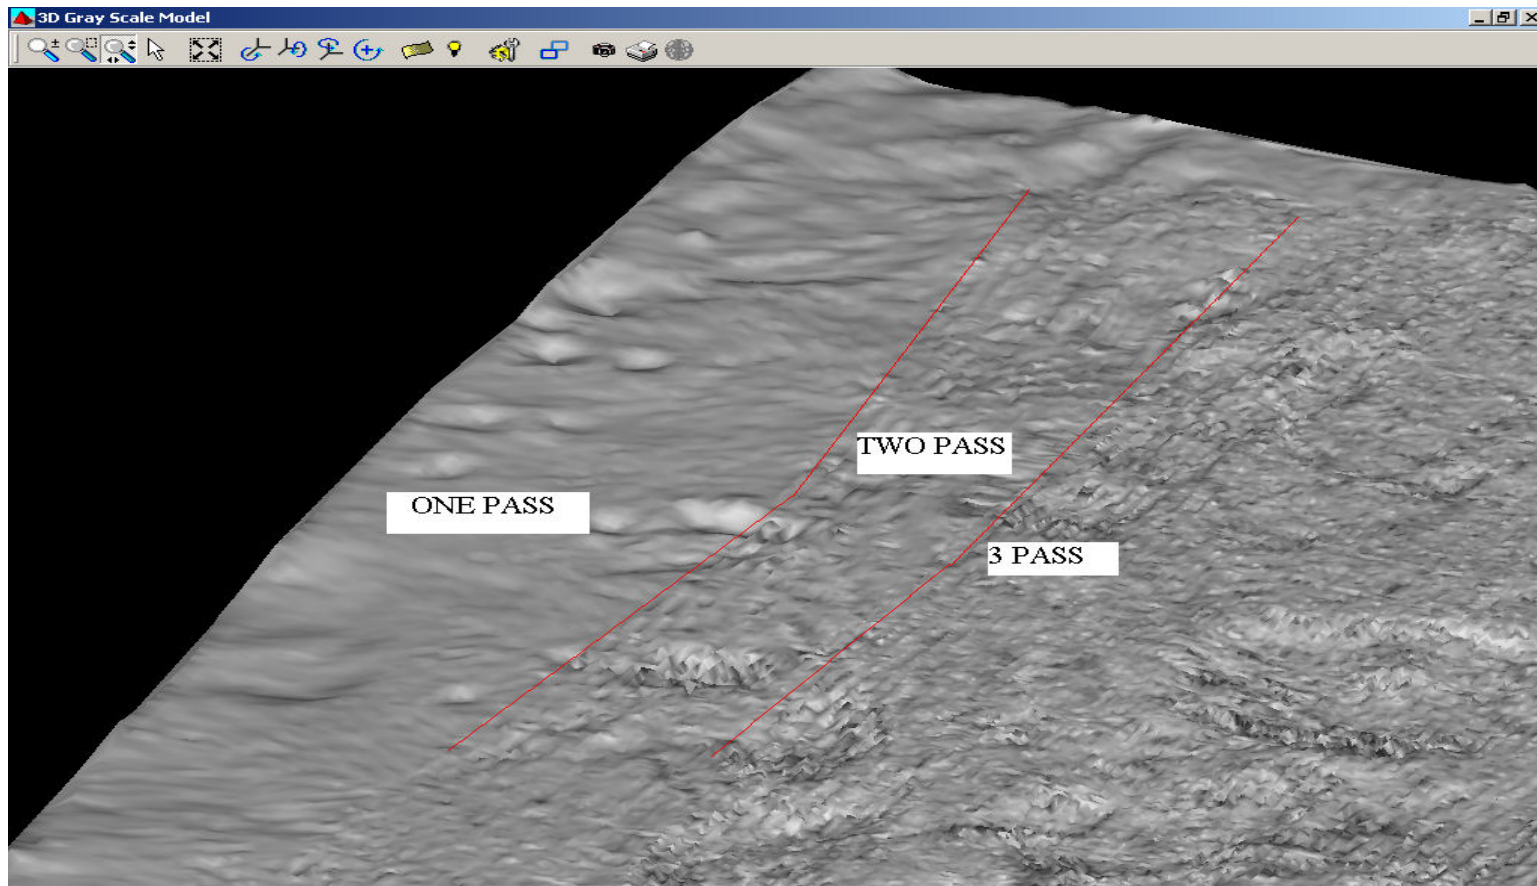

Figure 7. Visual Overview
- Below is a visual overview of what happens to the quality of data in the finished work product based on conditions as seen in Figure 7.